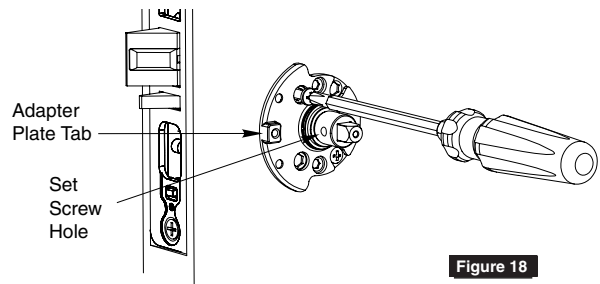

Figure 18
9. Slide inside adapter plate over spindle and install using two (2) adapter plate mounting screws. (Figure 18)